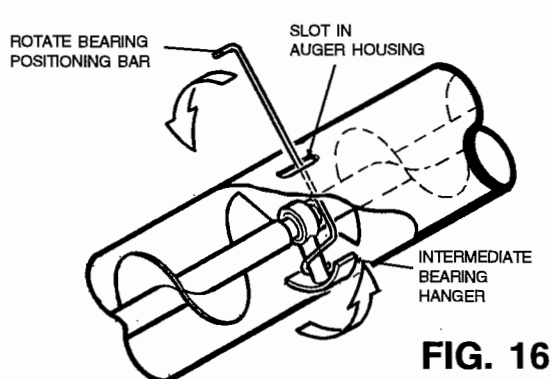

FIG. 16
- A. Insert the double bended end of bearing positioning bar into slot and hook the bearing hanger stem. Rotate the stem upward as much as possible. See Fig. 16.